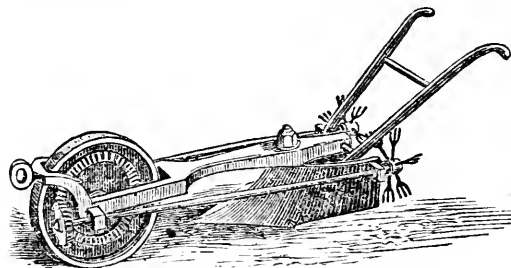

Fig. 151—WETHERELL'S HORSE-HOE.
**WETHERELL'S HORSE HOE.**—This curious implement (fig. 151) is constructed on a